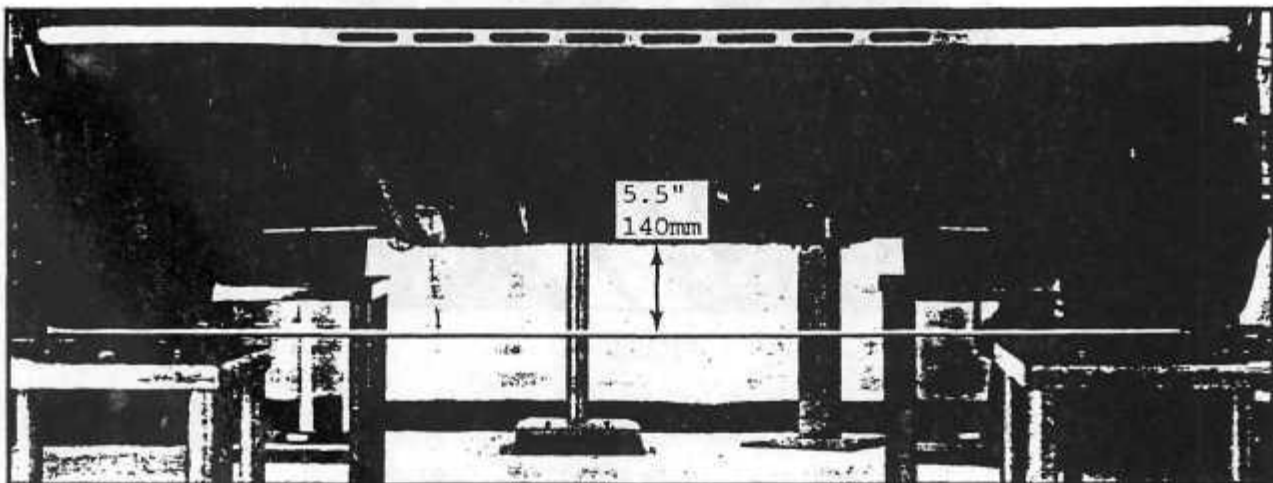

FIGURE 3
5. Check and, if necessary, adjust setting height 140 mm (5.5 inches) at the center of the engine support cross member (See Fig. 3).